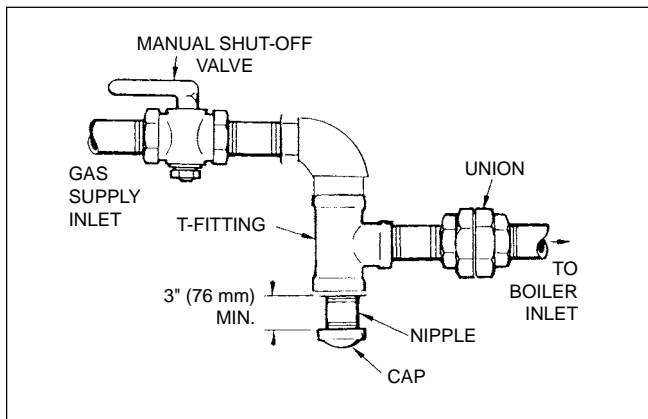

Figure 27. T-Fitting and Sediment Trap.
5. Install a sediment trap (drip leg) ahead of the gas controls (see Figure 27). Fit the trap with a threaded cap which can be removed for cleaning.